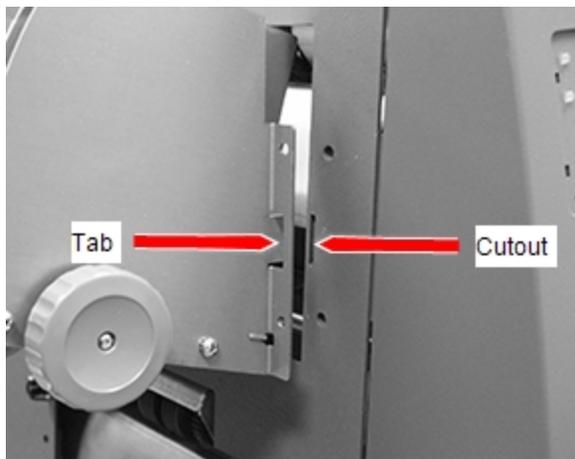

Figure 7 Aligning the Feeder
3. Lift the tray and position it so the locating tabs align with and fit into the corresponding cutouts on the machine frame as shown in Figure 7.